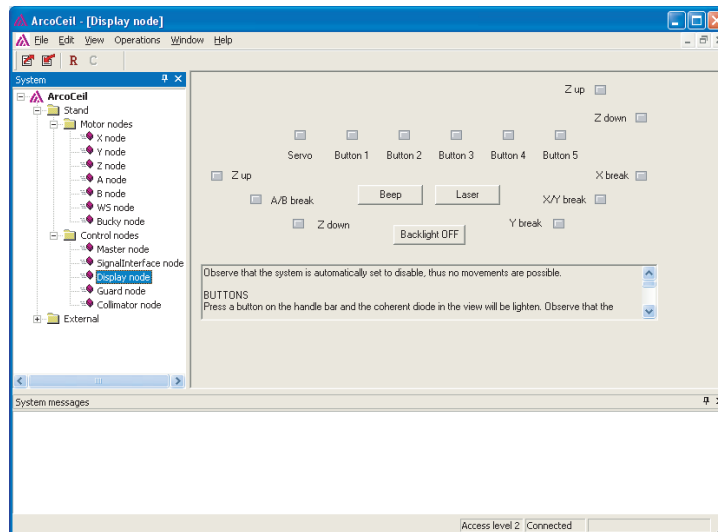

Fig. 4-181
1. Enter the Display node view, see Fig. 4-181 .